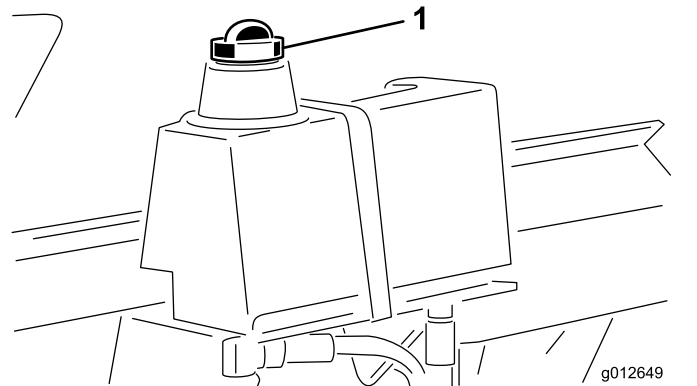

Figure 35
3. Remove the fitting from bottom of hydraulic reservoir and allow the reservoir to drain completely (Figure 35).
5. Clean area around filler neck and cap of hydraulic tank, and remove the cap (Figure 35).
8. Install reservoir cap (Figure 35).